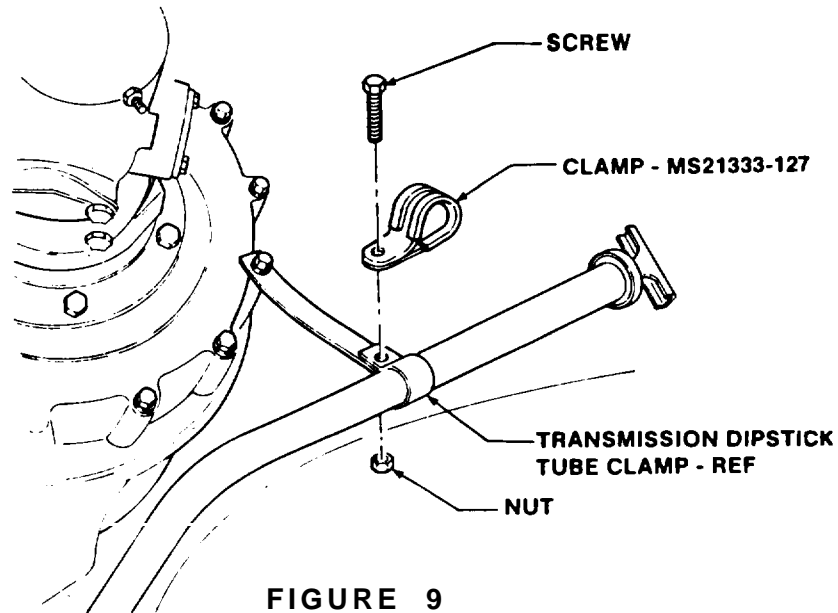

FIGURE 9
(16) Install MS21333-127 clamp on transmission dipstick tube clamp and secure with nut and screw (removed in step (15)) as shown in figure 9.